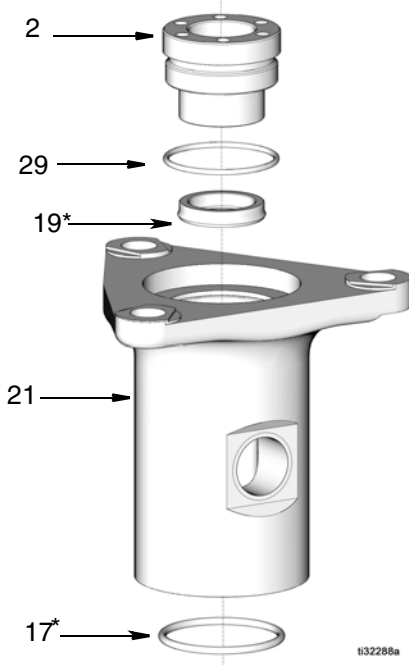

FIG. 9
1. Apply a thin layer of grease to o-ring (17*) and throat seal (19*) and install parts in pump base (21) (FIG. 9).
2. Apply a thin layer of grease to o-ring (29*) and install o-ring to packing gland (2). Tighten down packing gland (2) to pump base (FIG. 9).